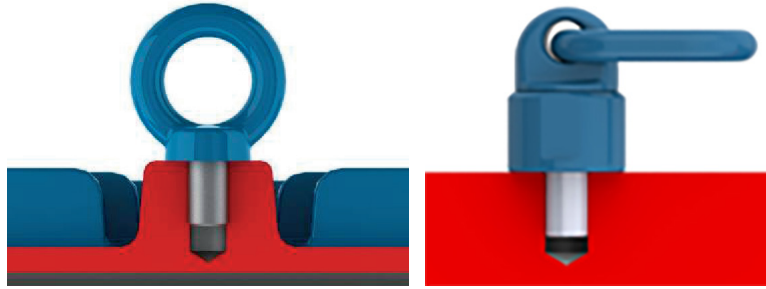
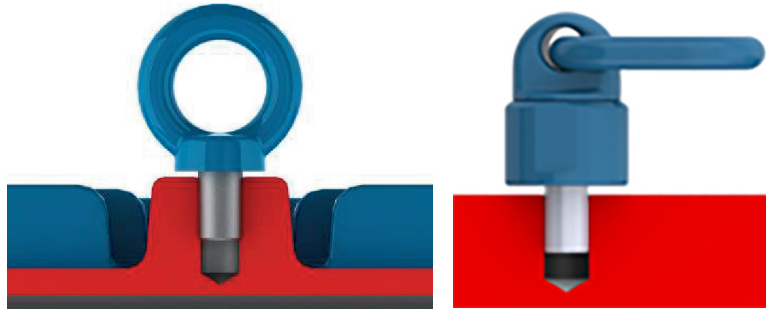

Figure 4.1: Correct tightening of the eyebolt
Figure 4.2: Incorrect tightening of the eyebolt
Before lifting the motor ensure that all eyebolls are tightened properly and the eyeboll shoulders are in contact with the base to be lifted, as shown in Figure 4.1 on page 13. Figure 4.2 on page 13 shows an incorrect tightening of the eyeboll.
1. Ensure that the eyebolts are tightened properly, as shown in Figure 4.1 on page 13.
1. Ensure that all eyebolts are tightened properly, as shown in Figure 4.1 on page 13.